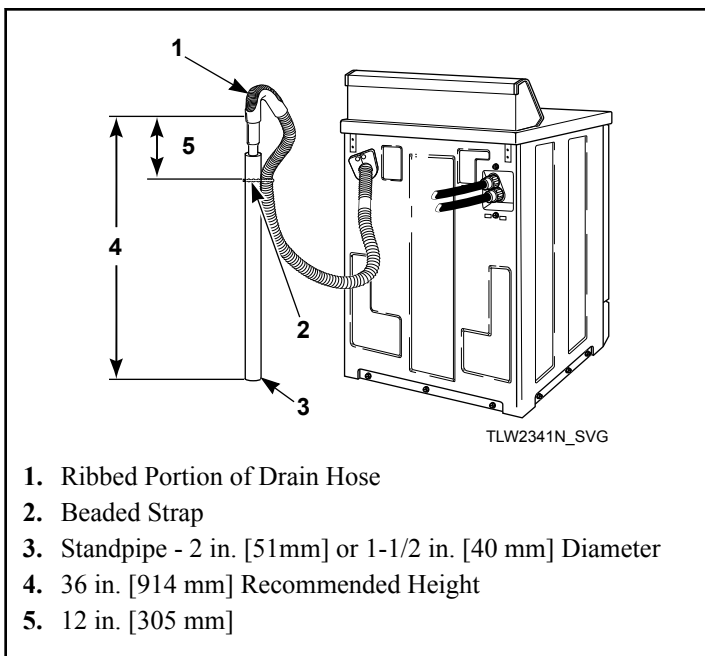

Figure 5
4. Remove the beaded strap from accessories bag and place around standpipe and drain hose, approximately 12 inches [300 mm] down from the top of pipe. Refer to *Figure 5*.